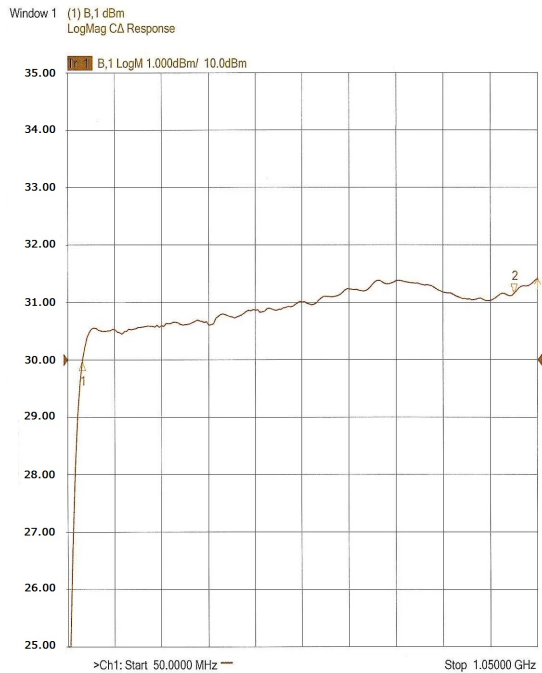

Figure 4-8. Typical A1 Pre-Amplifier Response
NOTE: The A1 Pre-Amplifier's response may differ considerably—particularly in flatness—from the typical responses shown in the Figure 4-8.
8. The typical response for the A1 Pre-Amplifier (at maximum gain setting) is shown in Figure 4-8.